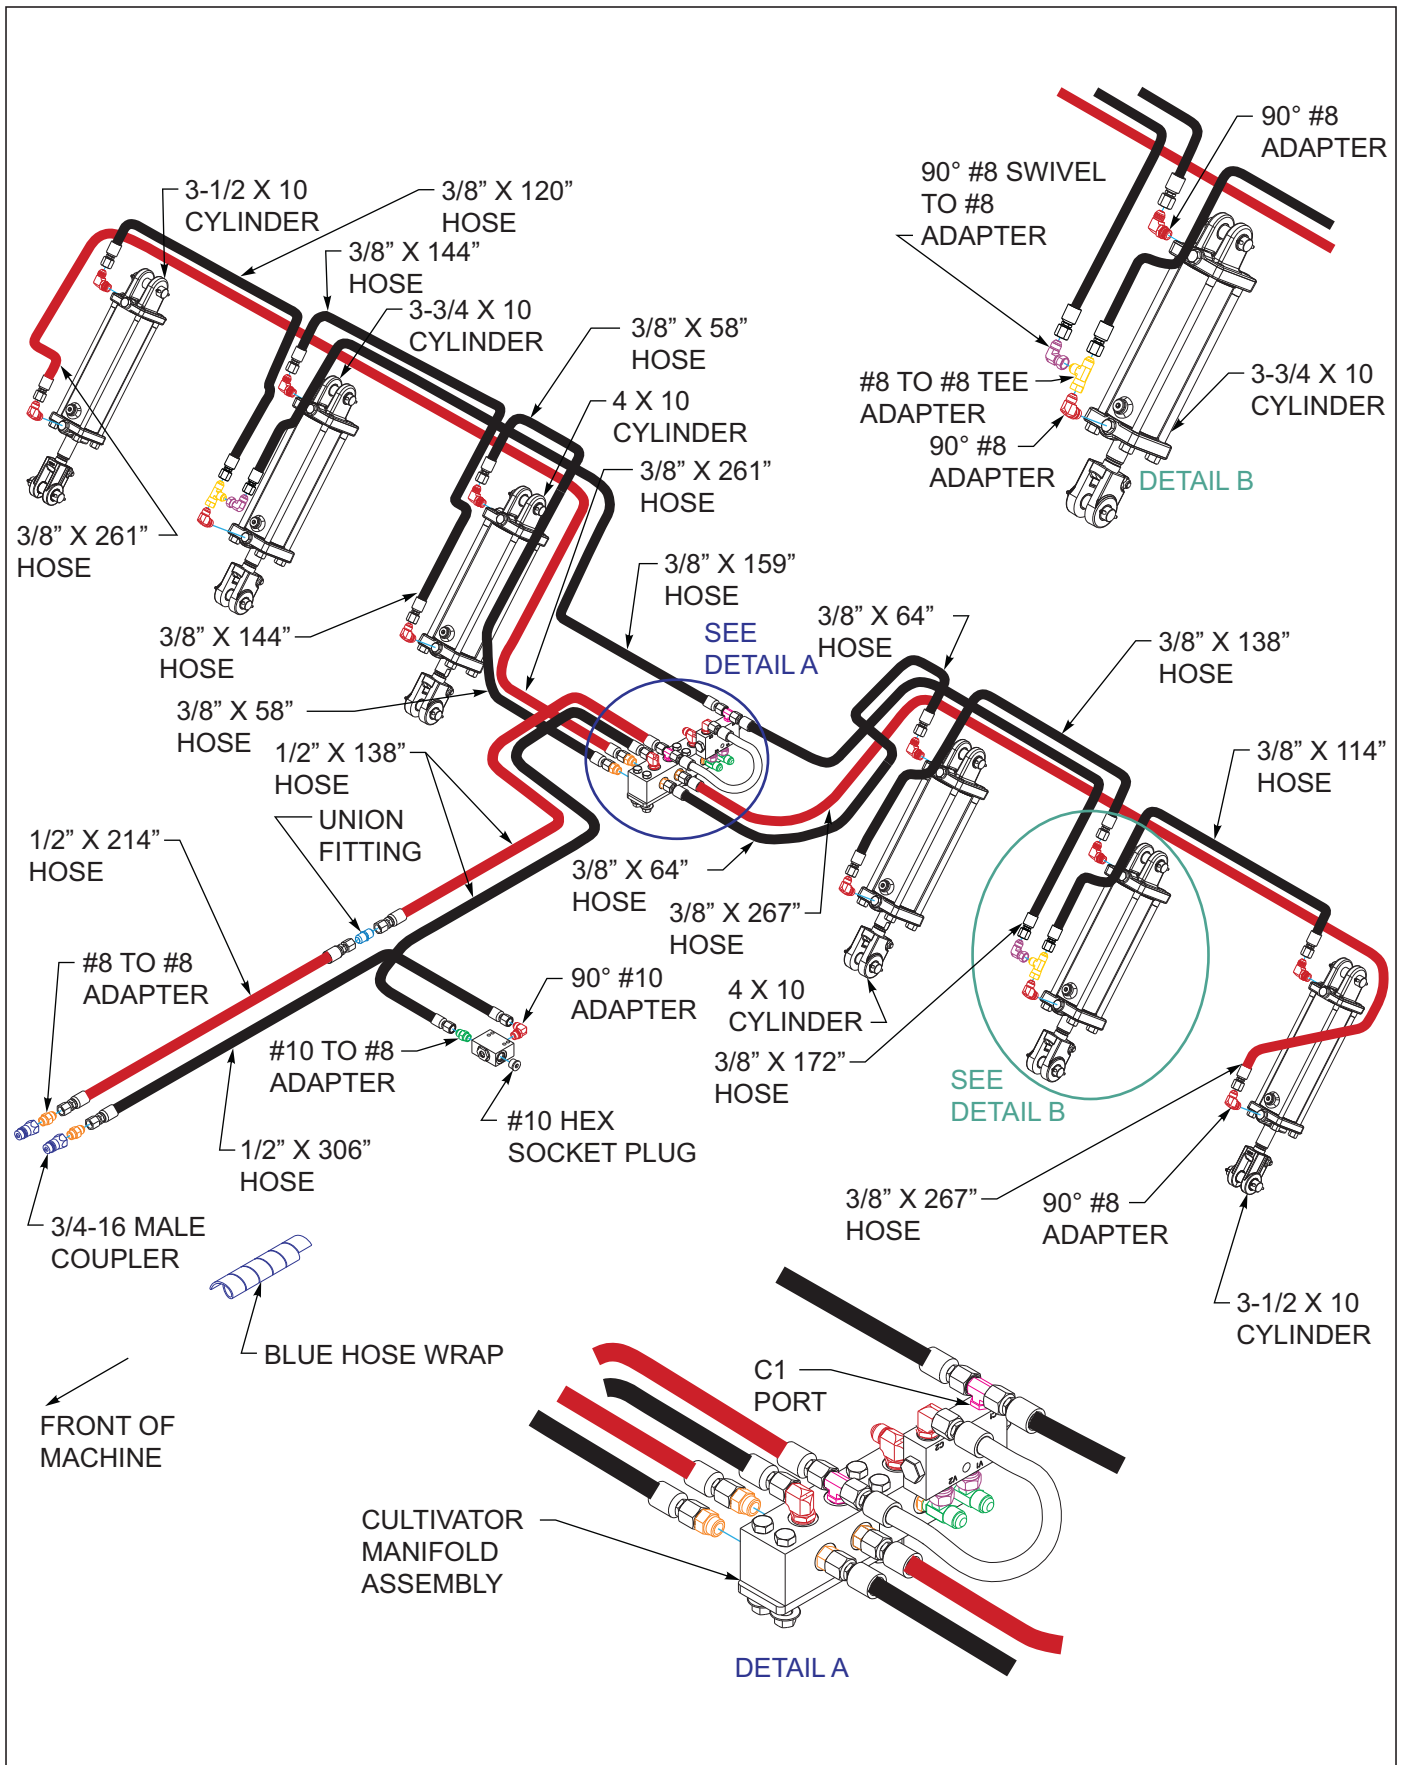
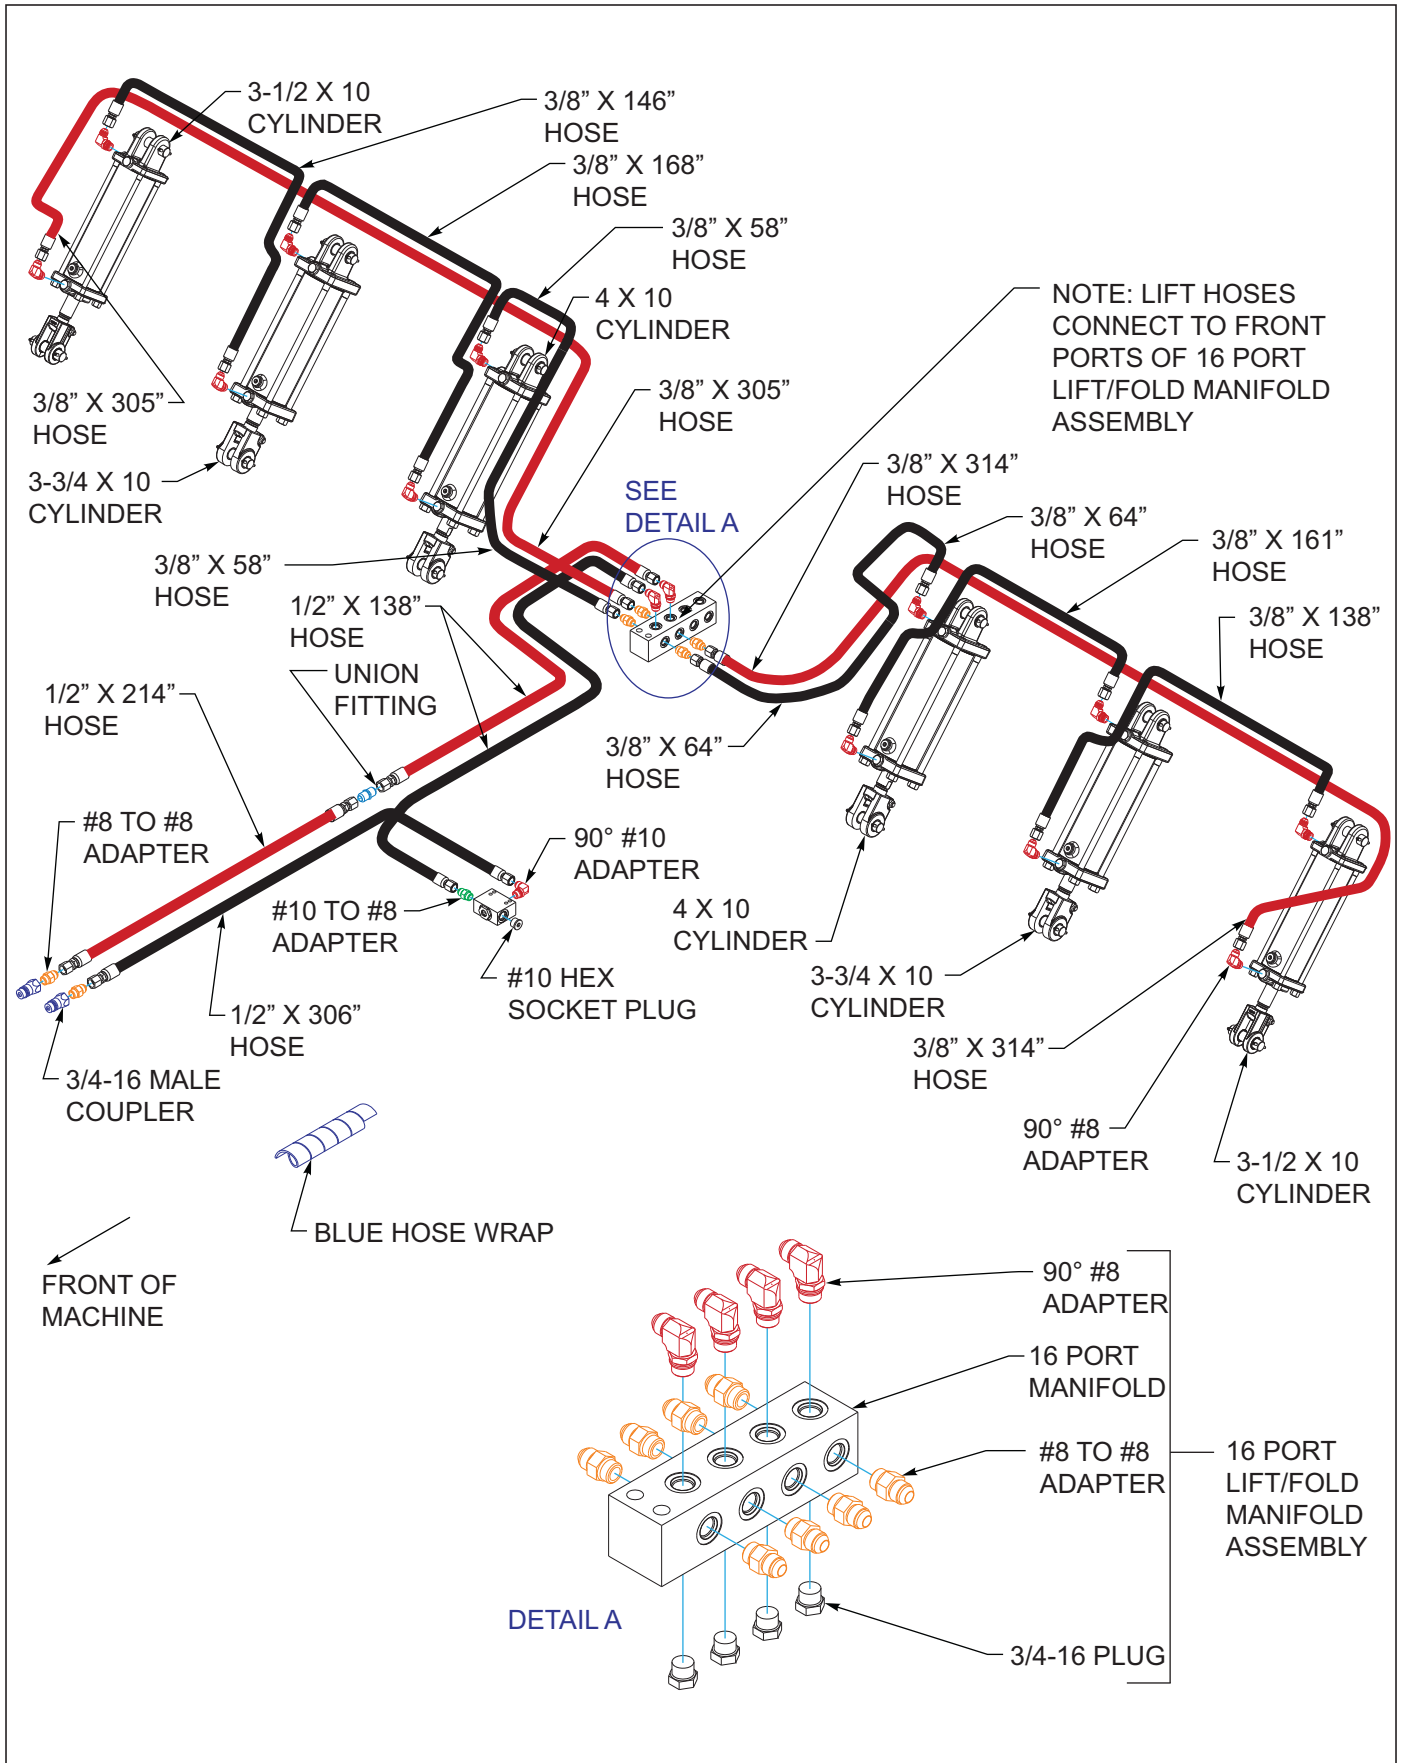

Figure 3-13: Hydraulic Lift Installation 9650FH-38' - 42'
Figure 3-19: Hydraulic Lift Installation 9650FH-46' - 50'
See Figures 3-13 through 3-24 for hydraulic cylinder fittings (factory installed and those installed during setup.)
Refer to Figures 3-13 and 3-18 for lift and fold hydraulic diagrams for 9650-38' and 9650-42' models.
Refer to Figures 3-19 and 3-24 for lift and fold hydraulic diagrams for 9650-46' and 9650-50' models.
4. Install 90 degree regular adapter fittings in both ends of all lift cylinders (4 x 10, 3-3/4 x 10, and 3-1/2 x 10) *See Figures 3-13 and 3-19*. Install base fitting in side port, with both fittings pointing upward.
9. Install lift system hoses per **Figure 3-13 (9650-38 and 9650-42)** or **Figure 3-19 (9650-46 and 9650-50.)** Wrap lift system hoses with blue hose wrap.